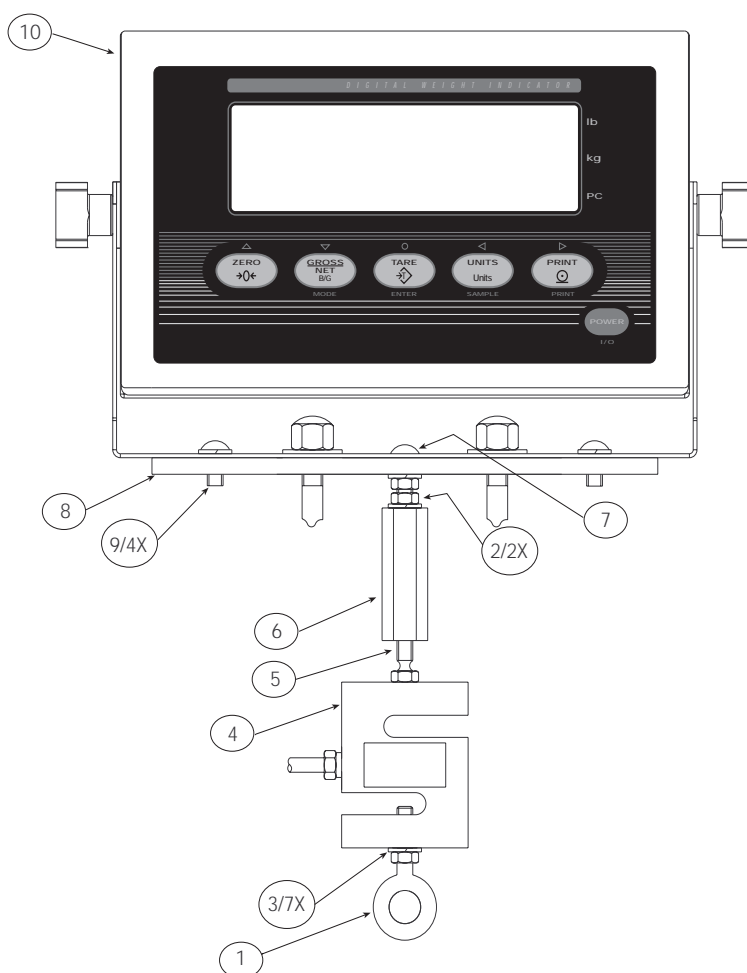

Figure 3-1. Diagram of Installation Kit 50573
1. Install jam nut and lock washer onto eyebolt (see Figure 2-2 and Figure 3-1). Thread eyebolt into load cell until thread of eyebolt protrudes into slot of load cell approximately 1/8 inch. Turn eyebolt so that the centerline of the eyebolt hole (open end) is perpendicular with the leg of load cell. Tighten jam nut.